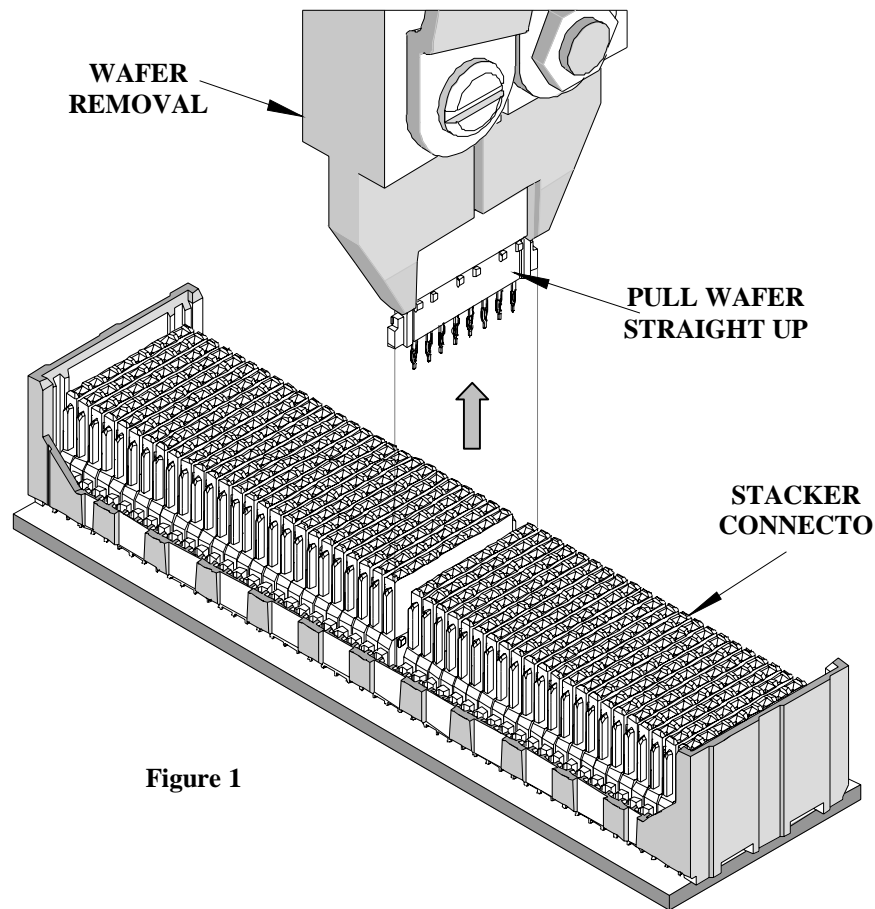

Figure 1
4. While applying pressure to the handles, pull straight up until the wafer slips out of the assembly. See Figure 1.